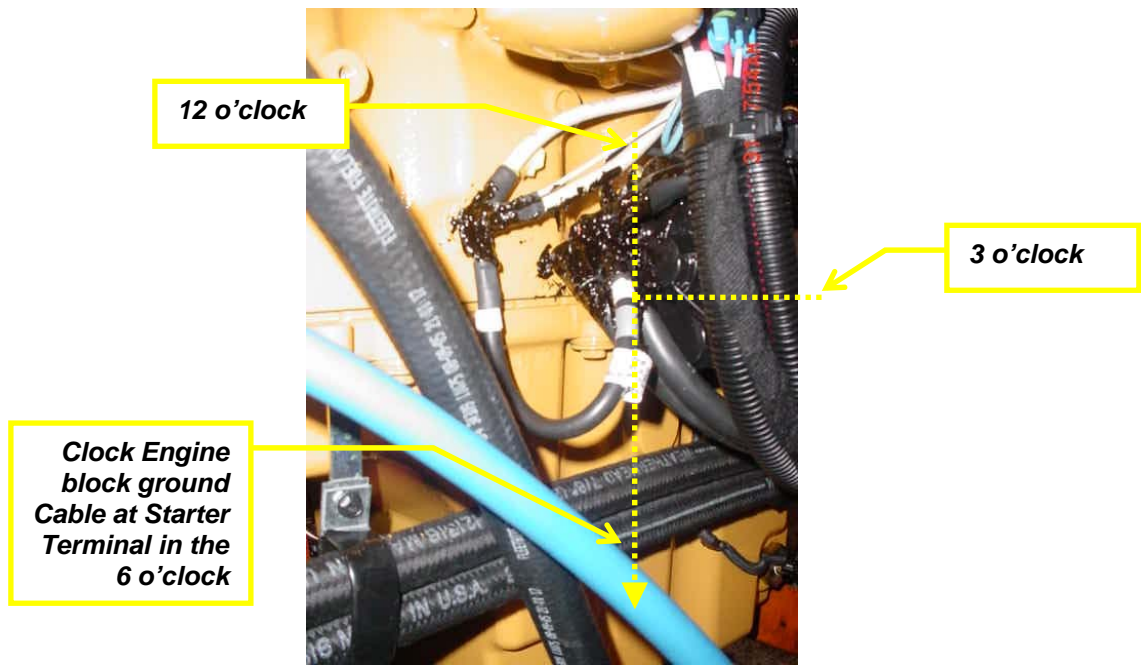

Figure 4 – Correct CAT (non-C15) engine block ground cable routing.
TO PREVENT CHAFING OF THE POSITIVE CABLES AGAINST THE ENGINE BLOCK GROUND CABLE (SEE FIGURE 3), PLEASE ENSURE ENGINE BLOCK GROUND CABLE IS CLOCKED IN THE DOWNWARD (6 O'CLOCK) POSITION, SEE FIGURE 4.
- *If rubbing or chafing of the ENGINE GROUND cable against the Battery Cables is present, rotate and tighten the new ground cable on the starter terminal so it is straight down (6 o'clock position) and not contacting the starter positive cables, see figure 4.*